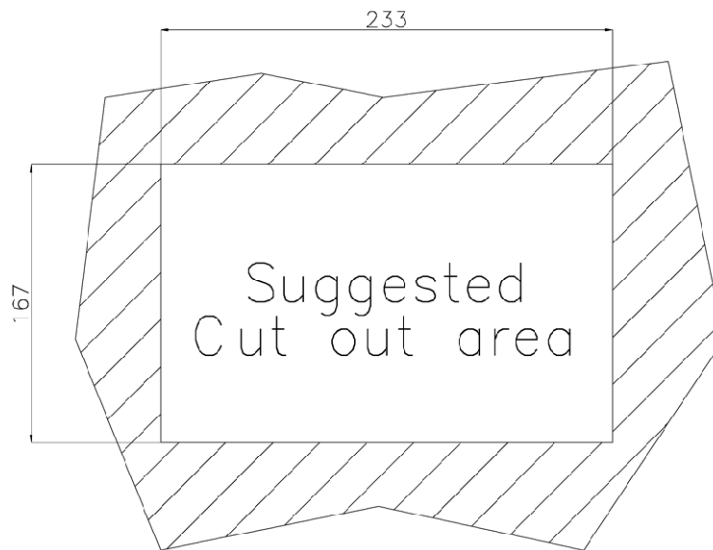
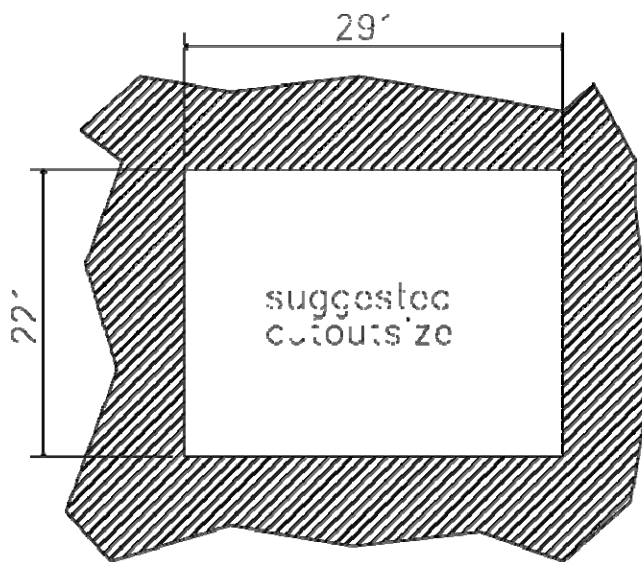

Figure 3-26: PPC-3708A-N26 Panel Cutout Dimensions
Figure 3-27: PPC-3710A-N26 Panel Cutout Dimensions
Step 2: Cut out a section of the panel that corresponds to the rear panel dimensions of the panel PC. The recommended cutout sizes are shown below (**Figure 3-26** and **Figure 3-27**).